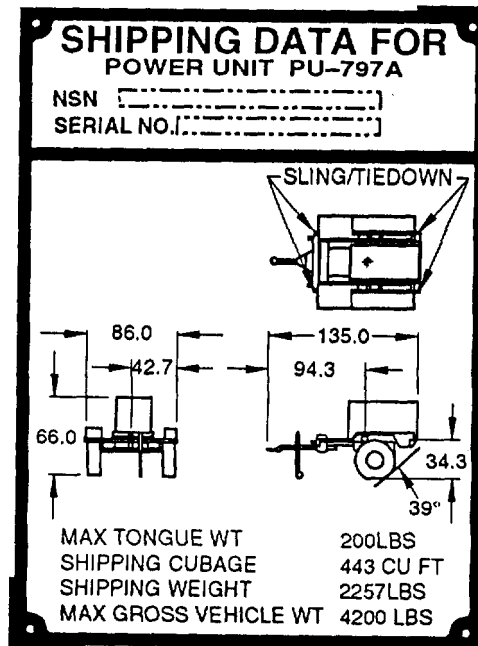

Figure 2-13.2. PU-797A Shipping Data/Identification Plate.
**2-6.5 PU-797A Shipping Data/Identification Plate.** Refer to figure 2-13.2. This plate is located on front of curbside fender.